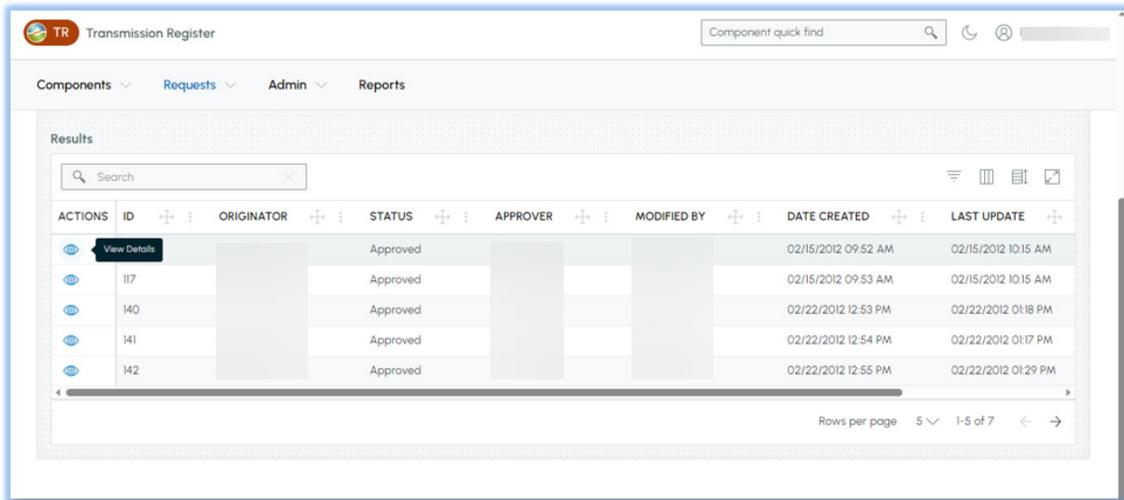

Figure 27 Find Share Request
- 5) Press the Run Search button and the screen in Figure 27 loads.